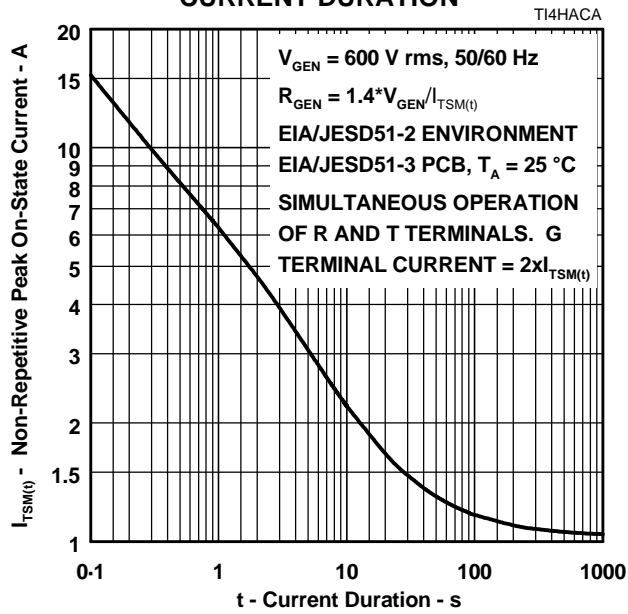

Figure 8.
5. EIA/JESD51-2 environment and EIA/JESD51-3 PCB with standard footprint dimensions connected with 5 A rated printed wiring track widths. See Figure 8 for the current ratings at other durations. Figure 8 shows the R and T terminal current rating for simultaneous operation. In this condition, the G terminal current will be $2xI_{TSM(t)}$, the sum of the R and T terminal currents. Derate current values at -0.61 %/ $^\circ\text{C}$ for ambient temperatures above 25 $^\circ\text{C}$.
The protector can withstand the G return currents applied for times not exceeding those shown in Figure 8. Currents that exceed these times must be terminated or reduced to avoid protector failure. Fuses, PTC (Positive Temperature Coefficient) resistors and fusible resistors are overcurrent protection devices which can be used to reduce the current flow. Protective fuses may range from a few hundred milliamperes to one ampere. In some cases it may be necessary to add some extra series resistance to prevent the fuse opening during impulse testing. The current versus time characteristic of the overcurrent protector must be below the line shown in Figure 8. In some cases there may be a further time limit imposed by the test standard (e.g. UL 1459 wiring simulator failure).